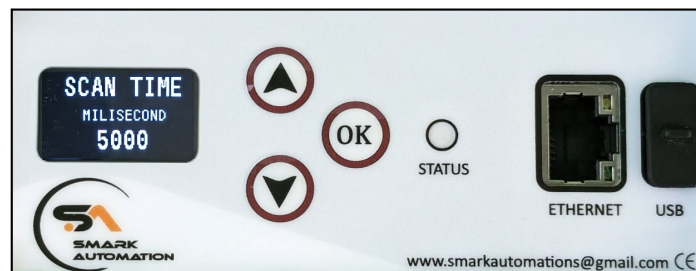

Figure 27: Configuring Scan Time for XT COM CONF
- 1. Access XT COM CONF Menu:** Navigate to the "XT COM CONF" option from the navigation menu. Pressing OK will prompt the user to set the Scan Time as shown in Fig 27.